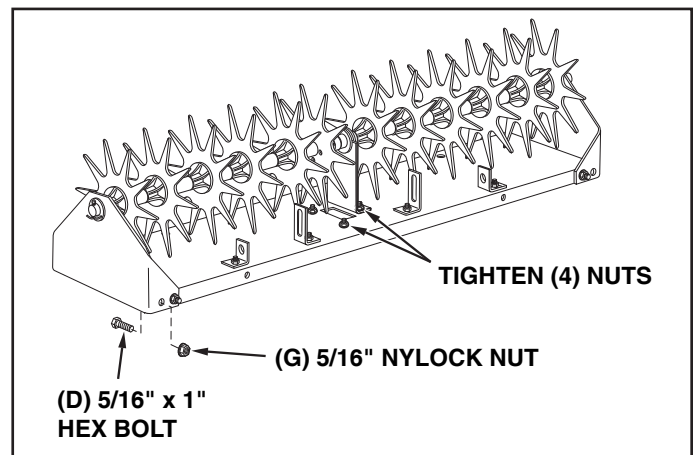

FIGURE 7 REAR VIEW
12. Assemble four 5/16" x 1" hex bolts (D) and 5/16" nylock nuts (G) to the holes that were left empty at each corner of the tray. **Tighten** all eight corner bolts. See figure 7.